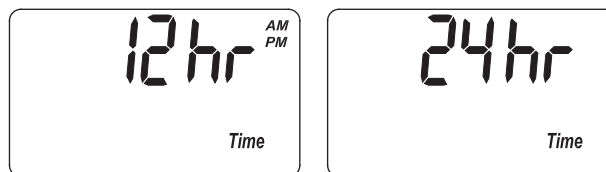

FIG. 30
1. Press and hold the PROGRAM button until the screen in Figure 26 is displayed. Once in this display, press the PROGRAM button five times and one of the two displays in Figure 30 is shown.